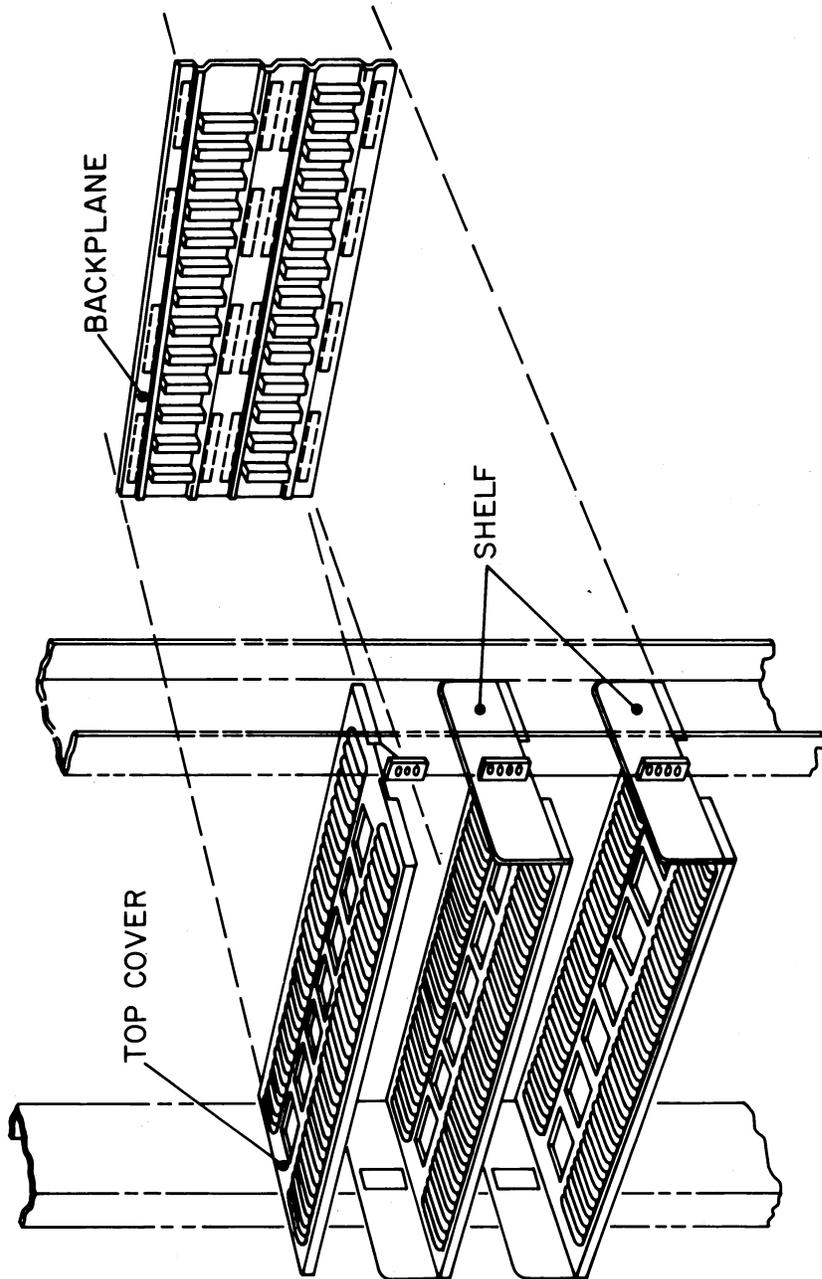
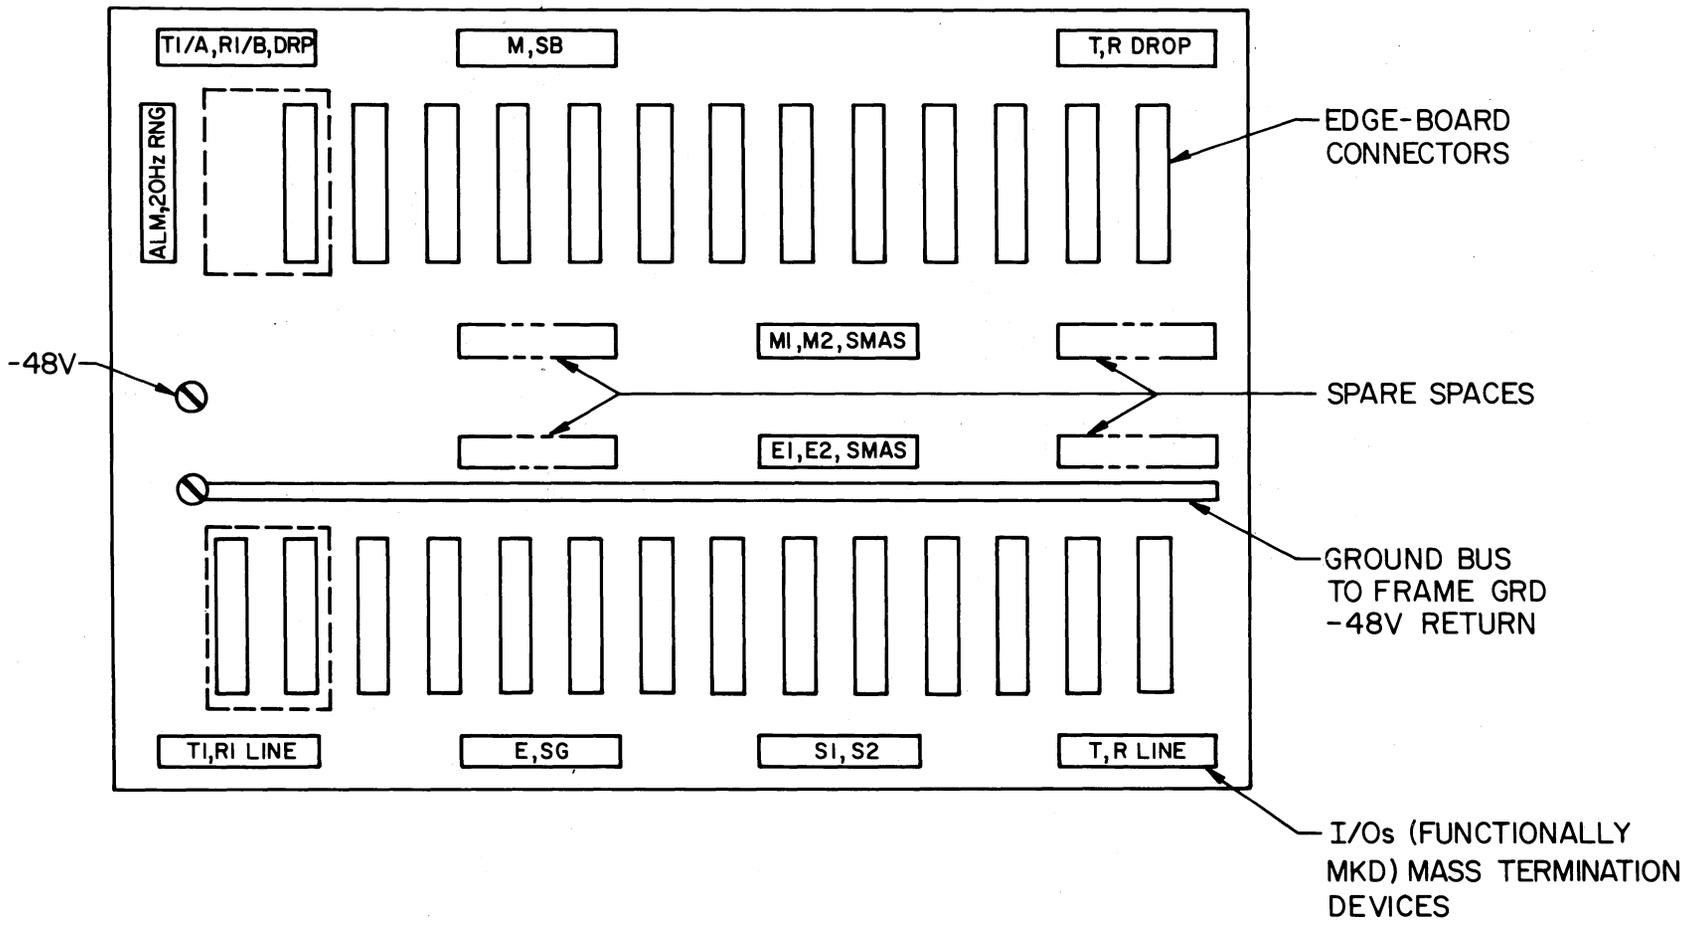

Fig. 3 — G-Signaling Module
Fig. 4 — G-Signaling Backplane
1.23 The ED-7C196,GR1 backplane assembly is used for all G-signaling applications. Each pair of shelves in the bay to be equipped with G-signaling plug-ins will require one backplane to be mounted. See Fig. 3. The backplane is equipped with edge-board connectors for plug-in mounts and with input/output (I/O) quick-connect mass termination devices (MTD). Fig. 4 shows the layout of the backplane with connectors and I/O MTDs. The mated I/O MTDs are the interfaces between the signaling